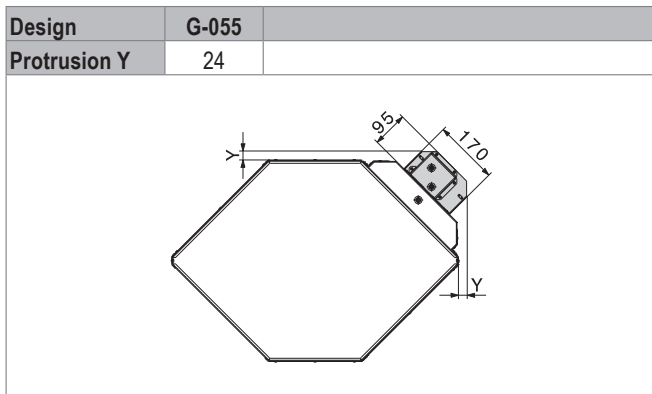
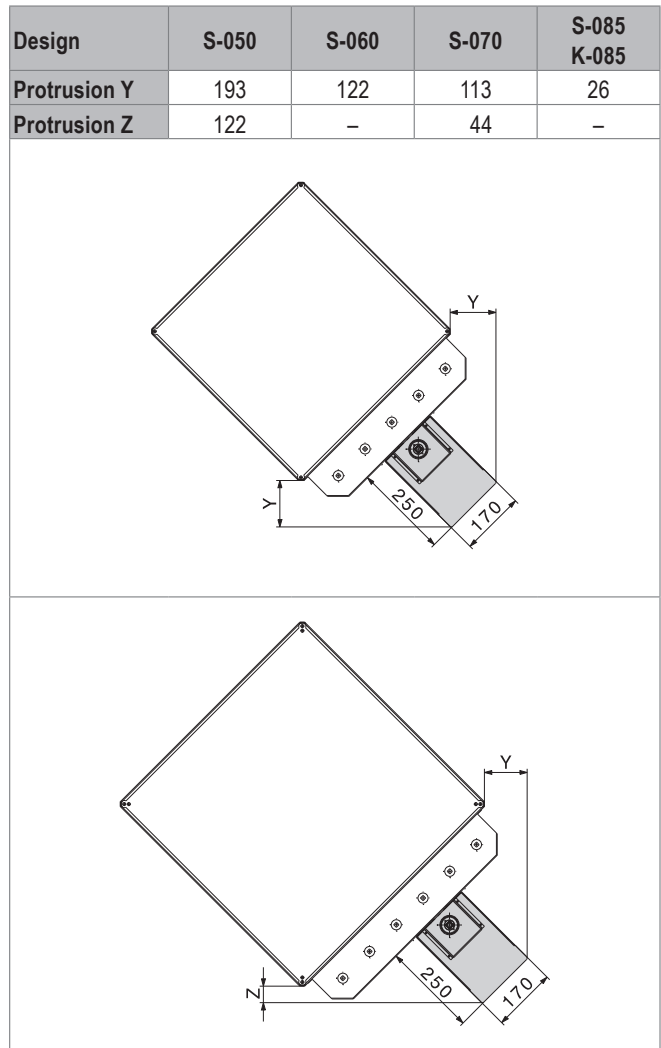

Fig. F6: Dimension sheet adapter for Gotthard G-055 (in mm)
Fig. F9: Dimension sheet adapter for Krivan / design S (in mm)
- On certain designs, the adapter protrudes beyond the outer edges of the exchanger (for dimensions, see Fig. F6 to Fig. F9).